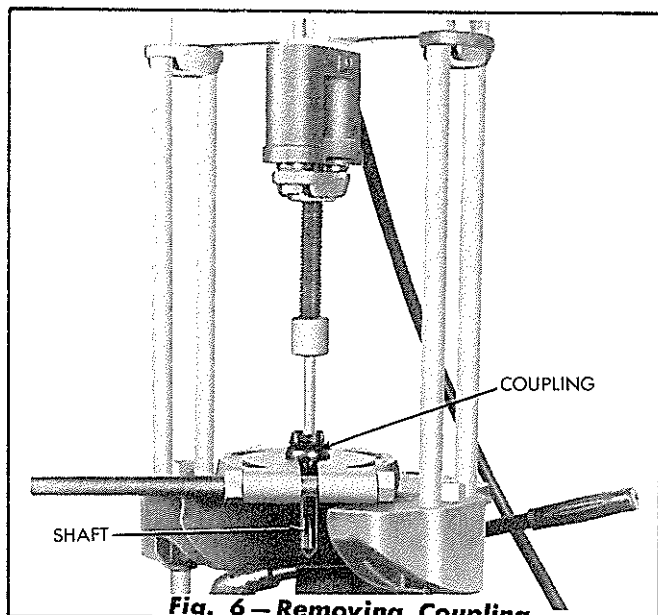

Fig. 6 – Removing Coupling from Impeller Shaft
3. If further disassembly is necessary, the pump shaft coupling and the oil thrower assembly may be forced from the shaft with the water pump shaft coupling remover as illustrated in Fig. 6.